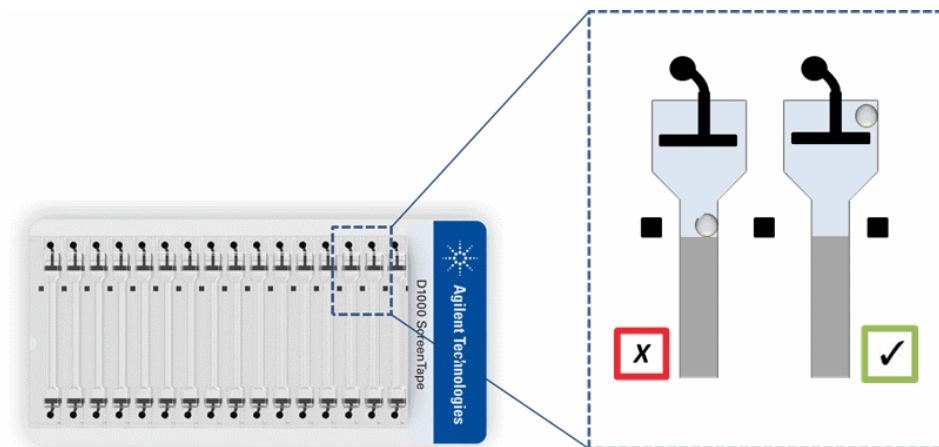

Figure 2 Flicking the ScreenTape consumable removes bubbles from the gel interface
- Ensure that ScreenTape is *flicked* gently before inserting into the instrument, if there are any small bubbles present then this will move them to the top of the chamber, see Figure 2 on page 14.